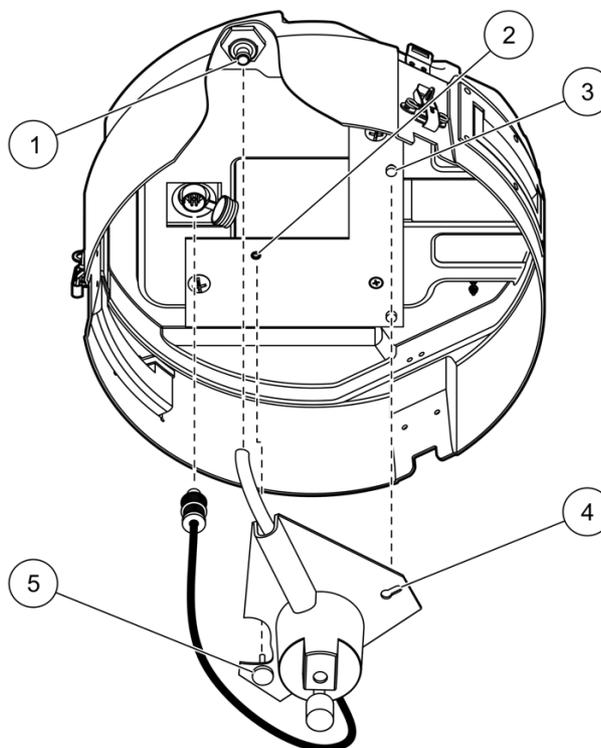

Figure 7 Full bottle shut-off installation
1. Slide the slot in the full bottle shut-off base plate under the retainer pin inside the center section (Figure 7). Make sure that the tube and cable exit through the openings in the full bottle shut-off assembly.
3. Connect the cable on the full bottle shut-off to the bottom of the controller (Figure 7). Turn to tighten.
4. Connect the free end of the full bottle shut-off tubing to the inside tube fitting (Figure 7).